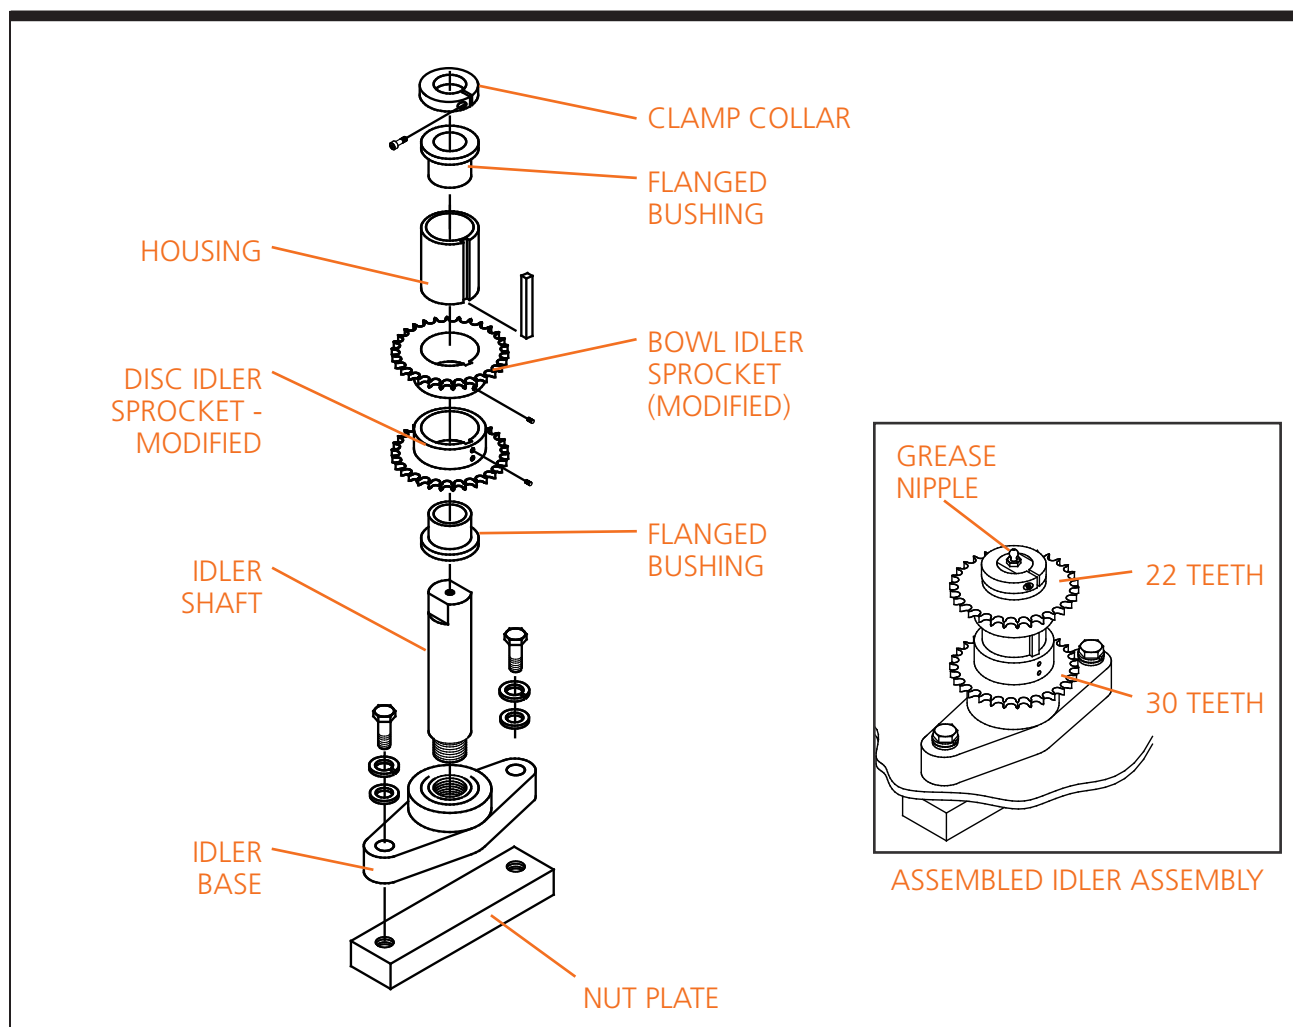

Figure 5-9. Idler Assembly [Single Drive Systems] - Exploded View and Assembled View
Step 2—Loosen the Lower Bearing. Loosen the clamp collar on the lower disc spindle bearing, leaving the upper disc spindle bearing attached to the disc shaft. To gain access to the lower disc spindle bearing, remove the chain from the disc spindle sprocket (refer to Figure 5-9).